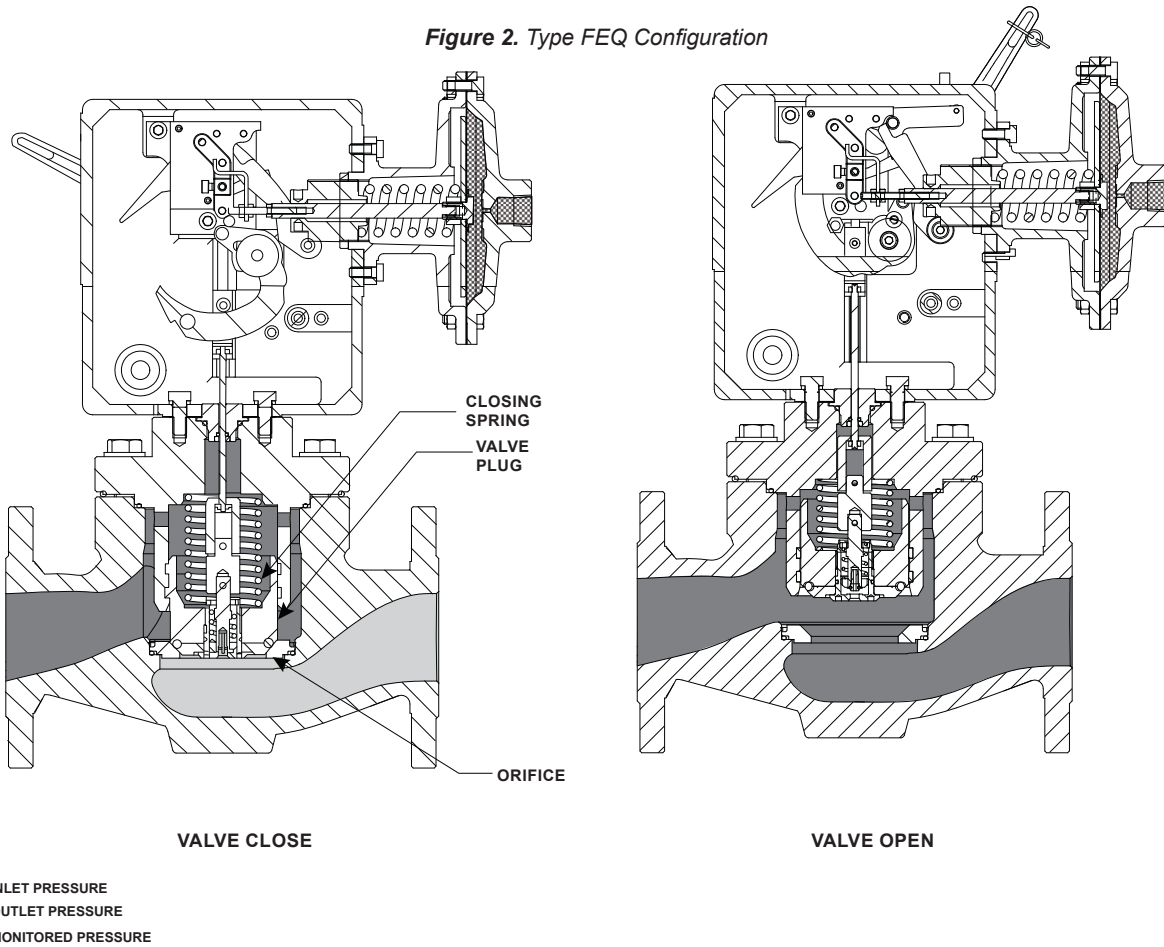

Figure 3. Type FEQ Operational Schematic
Pressure from the system is sensed through control lines into the manometric sensing device (BMS). The BMS will transmit the pressure fluctuations to the mechanism box (BM). If these fluctuations reach the set pressure of the BMS, the device will activate the tripping mechanism in the BM and cause the valve to slam shut. See Figure 3.